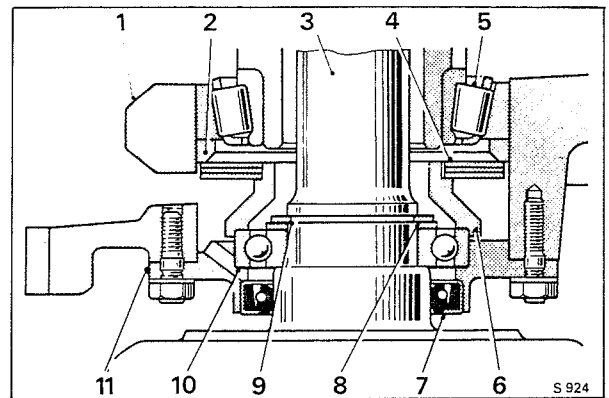

Fig. J15 Final drive side housing
When removing a right-hand half-shaft assembly care must be taken when withdrawing the housing. A thin rod or screwdriver should be inserted behind the housing to prevent the possibility of the Belleville washers falling down into the final drive casing (see Fig. J15).
4. Fit the half-shaft to the car. When fitting a right-hand half-shaft, care must be taken to ensure that the belleville washers and distance piece are retained in position. Also ensure that the belleville washers are fitted with the concave side of the washers facing the crown wheel assembly (see Fig. J15).